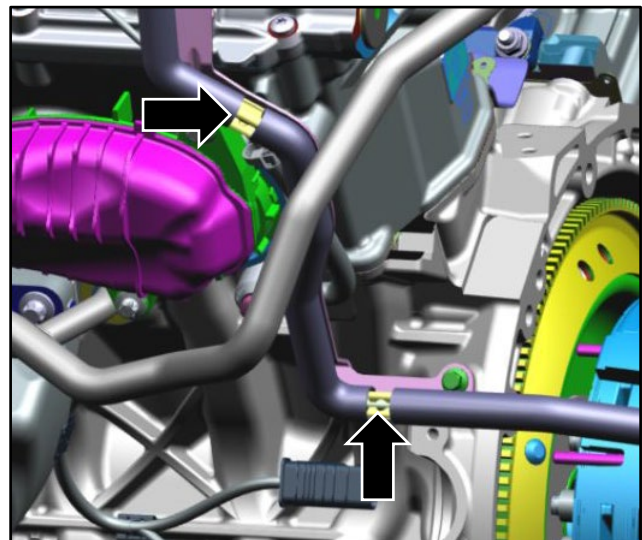

Figure 1
2. Examine the clutch pipe area to see if the support bracket clips for the clutch pipe are installed (refer to Figure 1).